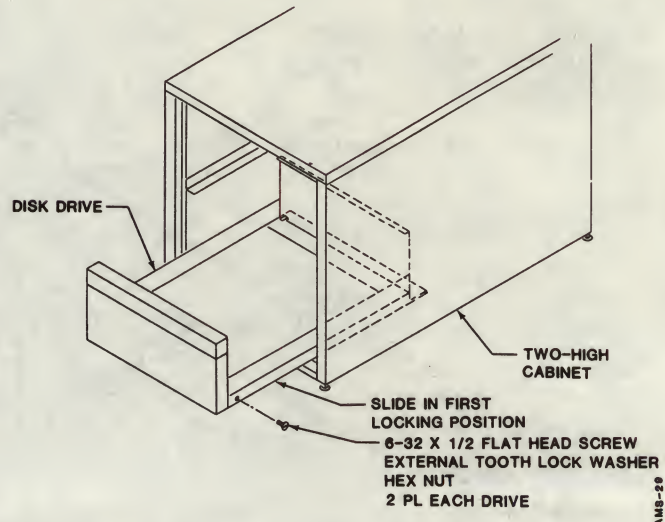

Figure 7-9. Installation of Locking Slide and Disk Drive Hardware
4. Re-extend disk drive with slides to first locking position. Install a (6-32 x 1/2 inch) flat head screw, lock washer and hex nut through the slide and into the front of each slide of the disk drive (see Figure 7-9) to hold the disk drive and slides together.